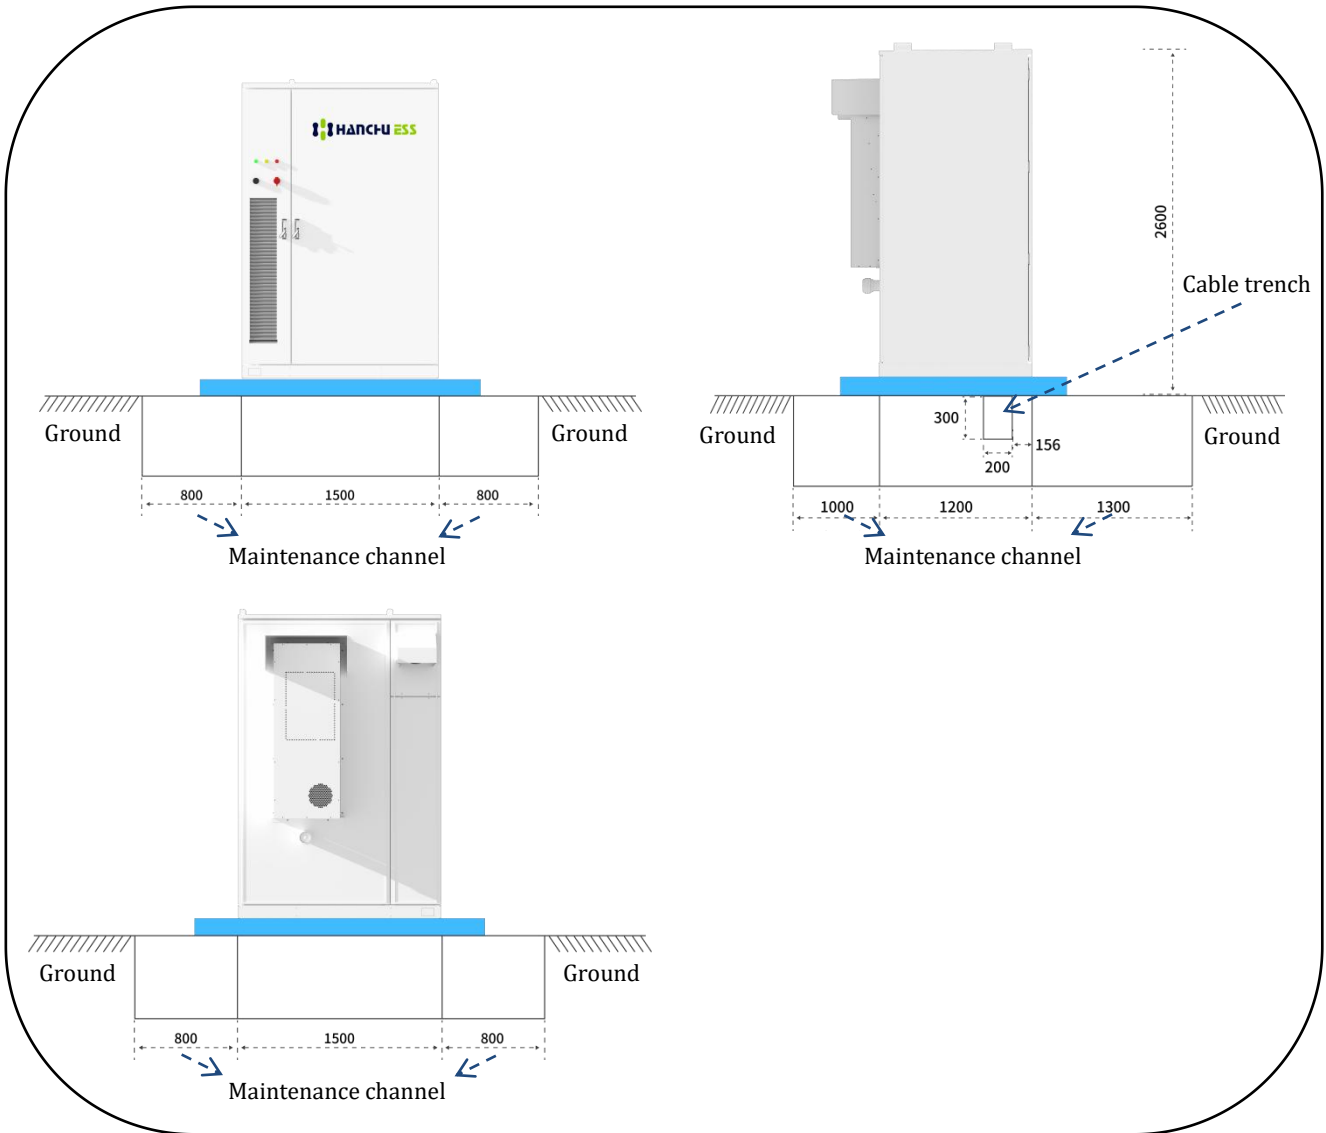

Figure 3-2 Equipment Installation in Place
- Choose the equipment installation location based on the product dimensions in advance, and make proper positioning and fixing; the foundation is recommended as shown in Figure 3-2.